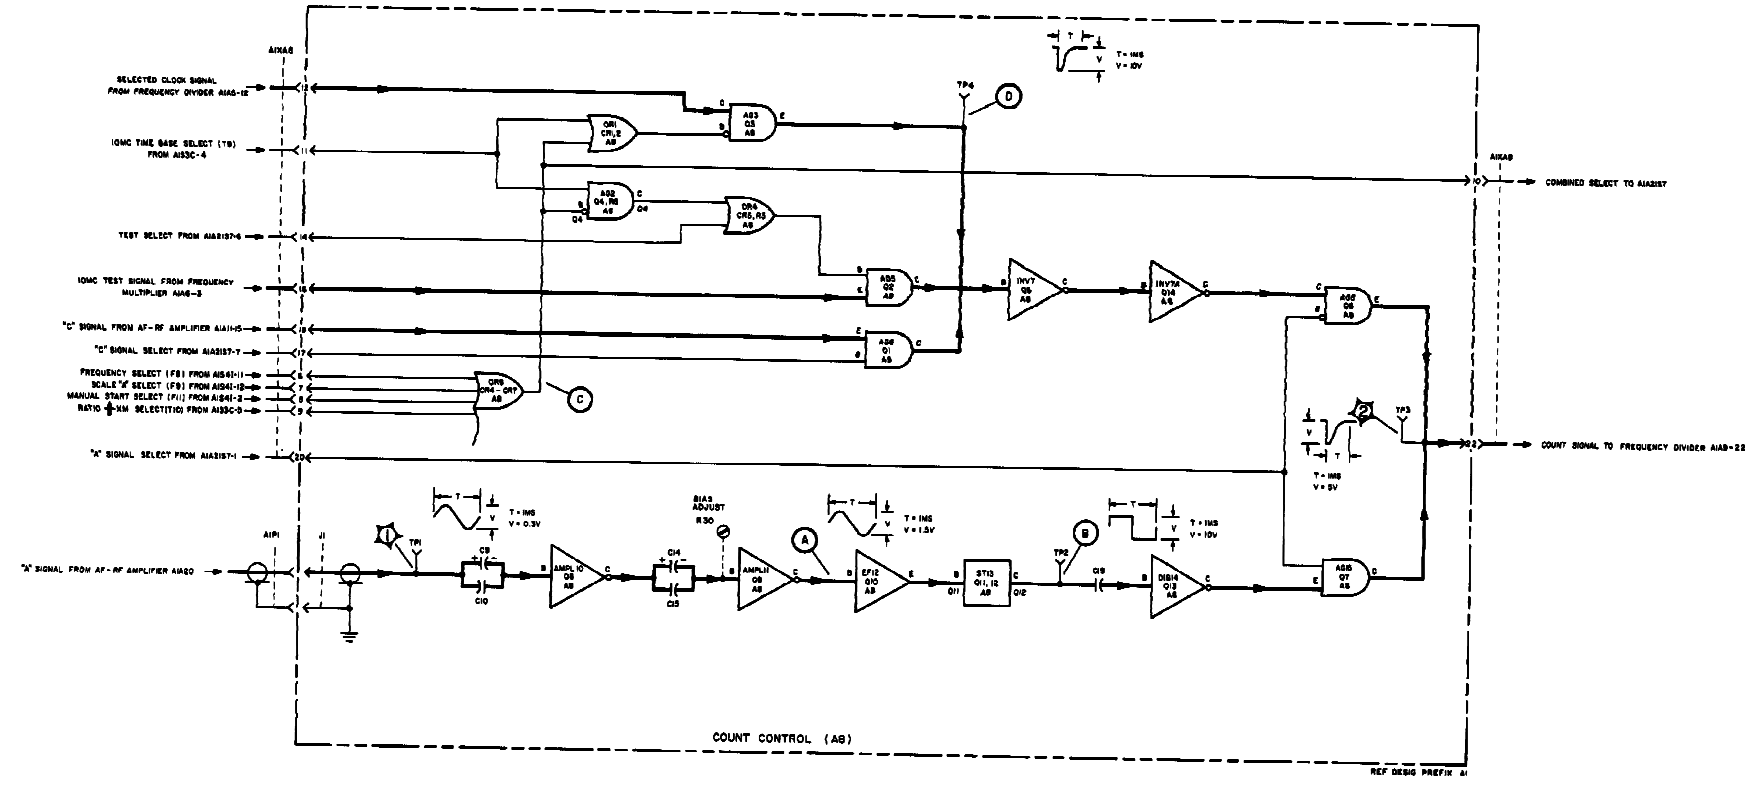

Figure 4-17. Count Control, Functional and Servicing Block Diagram
a. COUNT CONTROL FUNCTIONAL DESCRIPTION. - The count control consists of circuits which select the proper count signal to be supplied to the count decades. This functional section is constructed on one printed circuit board (A1A8). Figure 4-17 is the functional and servicing block diagram of the count control.
c. USEFUL ILLUSTRATIONS. - Illustrations useful in maintaining this functional section are: figures 4-17, 5-44, and 5-70.